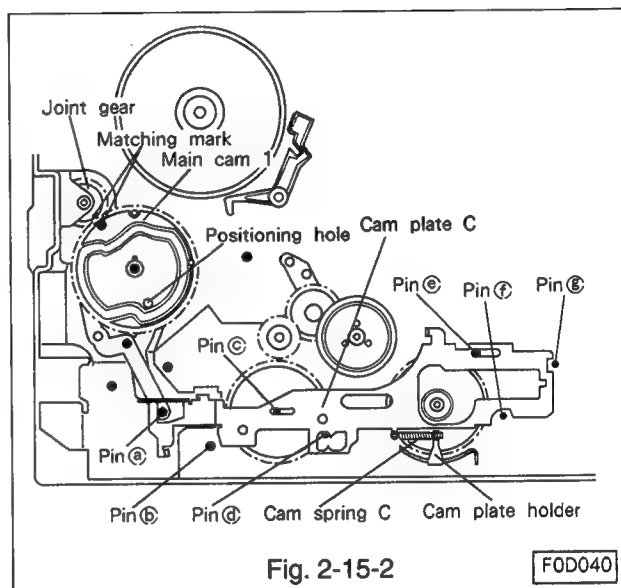

Fig. 2-15-2
- C. Take care not to move the lever RS and lever C, assemble the main cam 1 to the shaft by lining the matching mark of the joint gear with the positioning hole of main plate. Secure the main cam 1 with the grip ring. (Refer to Fig. 2-15-2.)
- D. Assemble the thrust washer to the pin (c) shown in Fig. 2-15-2, and install the cam plate C so that the corresponding positions of the plate match the pins (a ~ g).
- E. Fasten cam spring C to cam plate C and the cam plate holder. (Refer to Fig. 2-15-2.)